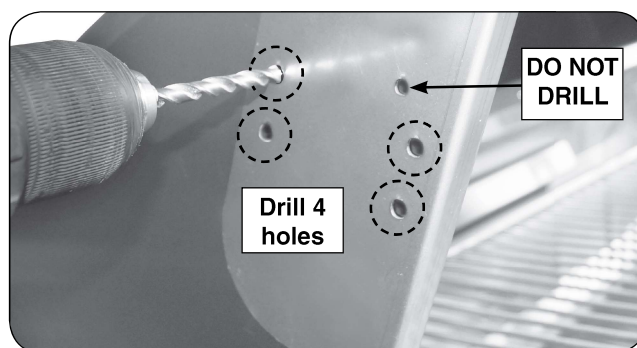

Fig. 1-2 Drill holes (on hood)
3. Using the provided drill bit, drill the four (4) holes through the oven hood side wall as shown in Fig. 1-2. Then remove the template.